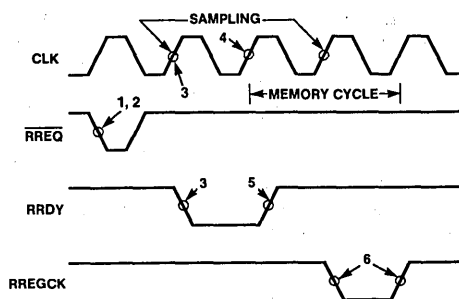

Figure 3. The Stages of a FIFO Read Operation
**The FIFO read operation is as follows** (see Figure 3):